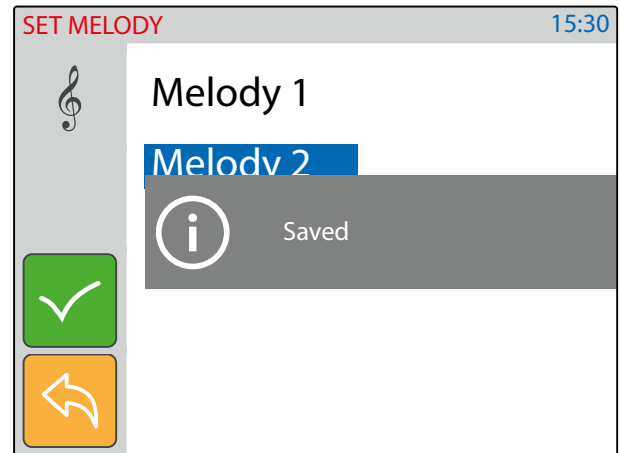

Fig. 10 Save the selected value
- A notice will inform that the value is saved (Fig. 10).